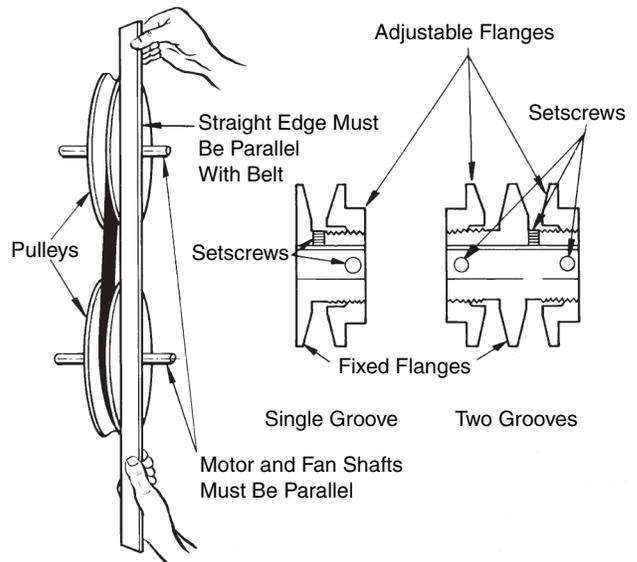

Fig. 29 — Fan Pulley Adjustments
3. Use the methods shown in Fig. 29 to check proper pulley alignment.
2. Loosen setscrew in movable flange of pulley. Screw movable flange toward fixed flange to increase the fan speed and away from fixed flange to reduce speed. Before tightening setscrew, make certain that setscrew is over nearest flat surface of pulley hub. (See Fig. 29.)